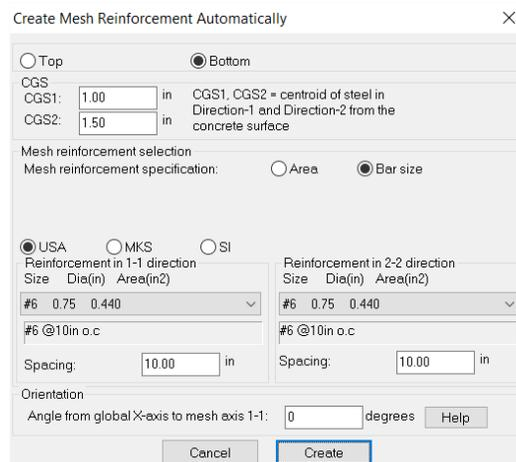

FIGURE 6.8-13 AUTOMATIC MESH REINFORCEMENT DIALOG
- A dialog box as shown in **Figure 6.8-13** will be displayed. Specify the layer of reinforcement you are going to define as **Bottom** and use the **Bar size** option. For this example, specify **#6 @ 10 in c/c** in both the directions. Click on the **Create** button to add this rebar as user defined base reinforcement. Not that if you are using a different slab for the tutorial, determine what spacing and size of reinforcement is required as mesh rebar to satisfy the initial reinforcement output from the program.